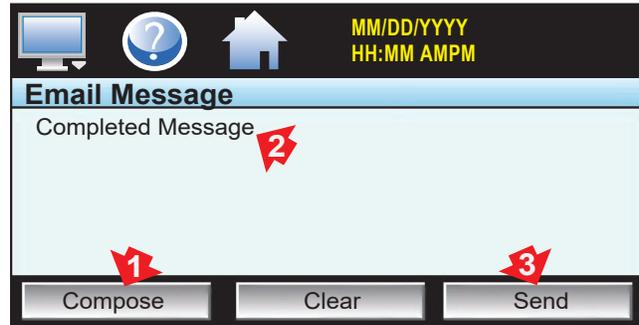

Figure 47. Compose & Send Email
5. Send messages to others in the server. Touch Message icon from the Settings screen, Email menu. Touch (1)Compose button to create a message (100 characters max). When finished, touch the Done key. The completed message (2) will be shown in the message window. Touch (3) Send button and select the recipients. Touch (3)Send button (Figure 47).